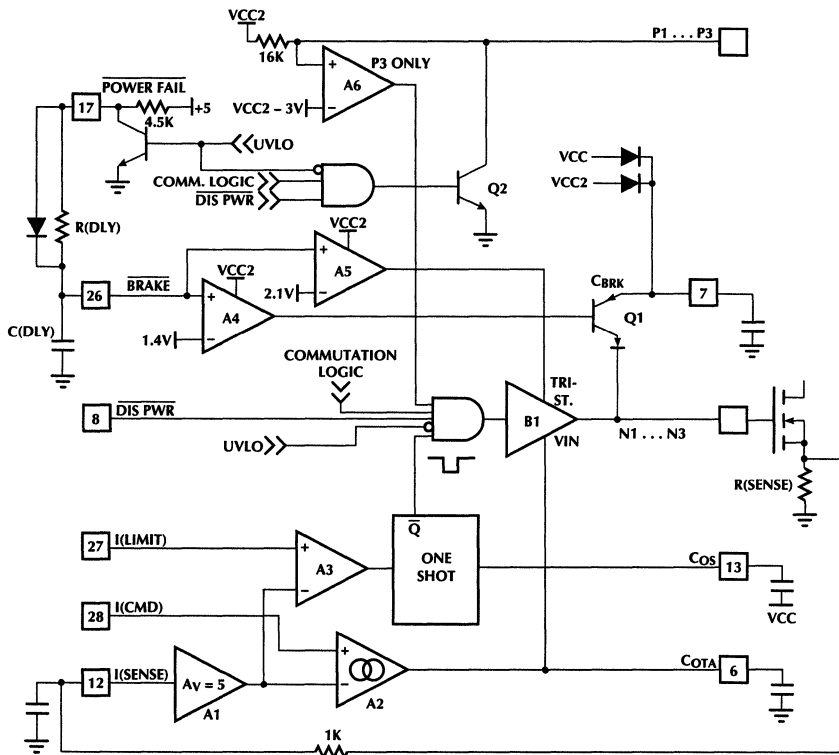
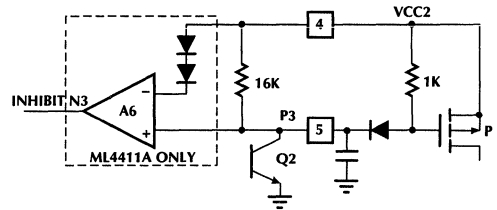

Figure 9. Current Control, Output Drive and Braking Circuits.
Figure 13. Alternate cross-conduction prevention for ML4411A
To facilitate speed control, the ML4411 includes two current control loops — linear and PWM (figure 9). The linear control loop senses the motor current on the I(SENSE) terminal through R_{SENSE}. An internal current sense amplifier's (A2) output modulates the gates of the 3 N-channel MOSFET's when OTA OUT is tied to OTA IN, or can modulate a single MOSFET gate tied to OTA OUT. When operated in this mode, OTA IN is tied to 12V, and N1-N3 are saturated switches. This method produces the lowest current ripple at the expense of an extra MOSFET.
As shown in figure 9, the braking circuit pulls the N-Channel MOSFET gates high when BRAKE falls below a 1.4V threshold. After a power failure, C(DLY) is discharged slowly through R(DLY) providing a delay for retract to occur before the braking circuit is activated. The N-Channel buffer (B1) tri-states when the BRAKE pin reaches 2.1V to ensure that no charge from C(BRK) is lost through the pull-down transistor in B1. To brake the motor with external signals, first disable power by pulling pin 8 low, then pull pin 26 below 1.4V using an open drain (or diode isolated) output.
Since the output section in a full bridge application consists of three half-H switches, cross-conduction can occur. Cross-conduction is the condition where an N-FET and P-FET in the same phase of the bridge conduct simultaneously. This could happen under two conditions (see figure 13):
- When transitioning from mode 0 to mode A (see table 1) P3 goes from on to off at the same time N3 goes from off to on. If the P3 turns off slowly and N3 turns on quickly, cross-conduction may occur. This condition has been prevented inside the IC on the ML4411A through the addition of comparator A6 on the P3 output (Figure 9). This comparator may cause an oscillation when the N3 switches on due to the capacitive coupling effect described below pulling the P3 pin below VCC2-1.4V. To avoid this, use the circuit in Figure 13.